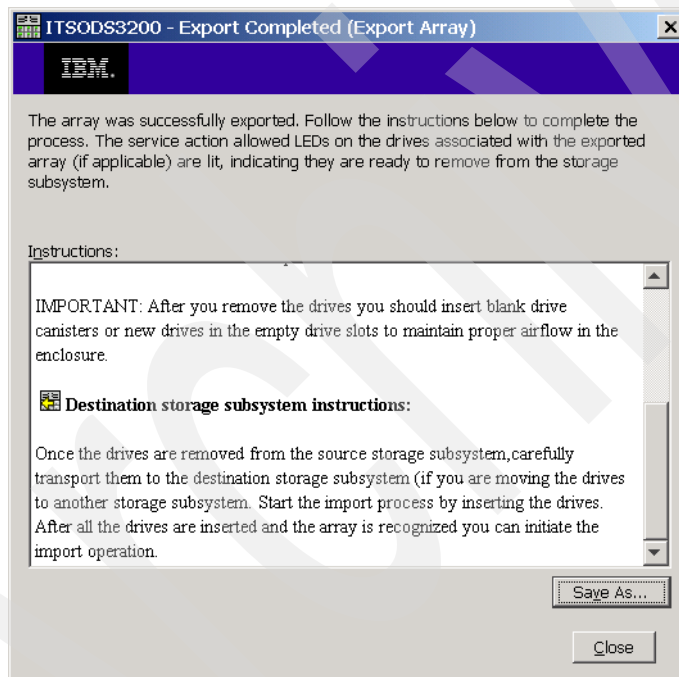

Figure 14-55 Export Array - Export Completed
7. After some period of time, the Export Completed window (Figure 14-55) confirms the successful completion of the Export Array procedure.
2. Click **Next** to start the Import Array procedure. The Import Report window (Figure 14-55 on page 343) shows some basic information about imported array and disks.